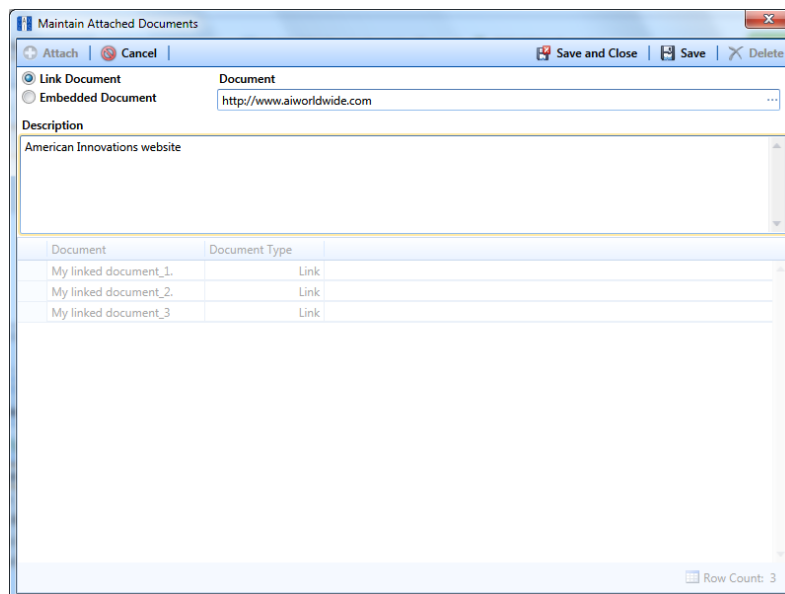

Figure 3-15. Maintain Attached Documents
- 8 If you selected *Link Document* in step 6 and want to add a link to a webpage on the Internet, follow these steps (Figure 3-15):